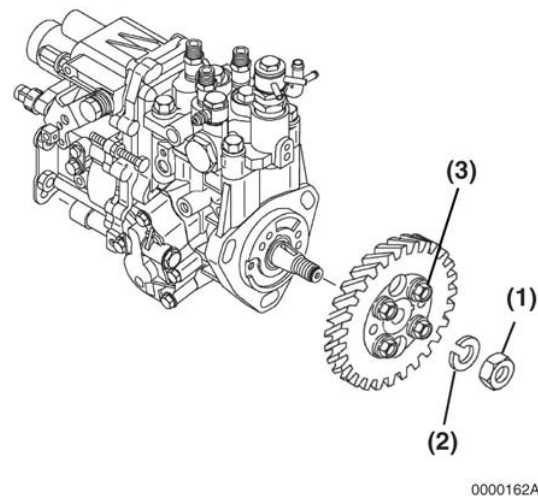

Figure 6-89
4. Do not remove the fuel injection pump drive gear unless absolutely necessary to avoid damage to the gear or pump. Do not loosen or remove the four bolts (Figure 115, (3)) retaining the pump drive gear to the hub. Only remove the nut (Figure 6-89, (1)) and washer (Figure 115, (2)), leaving the hub attached to the gear. Remove the pump drive gear and hub as an assembly using a gear puller.